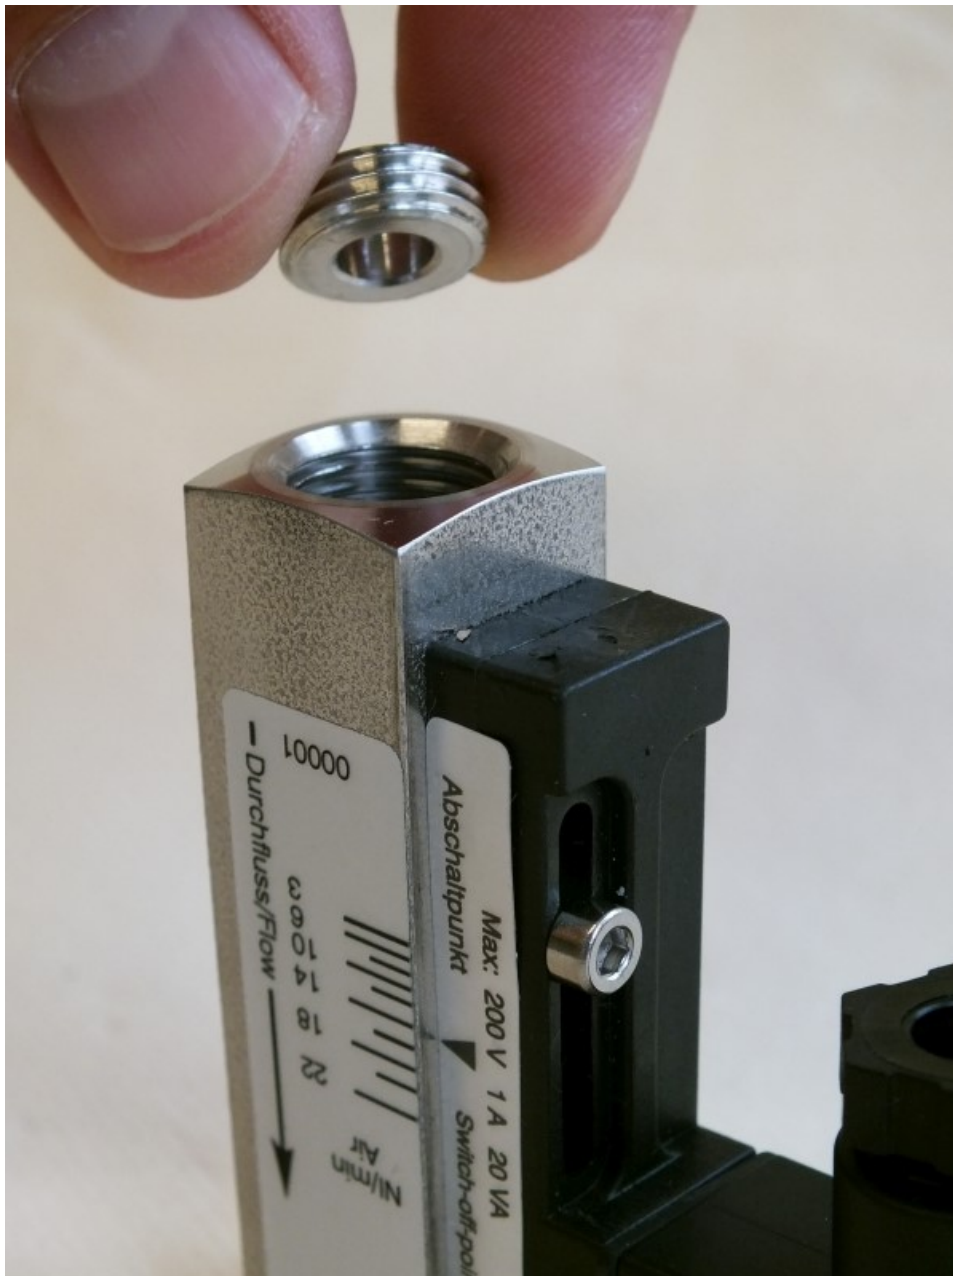

Fig. 41: Remove threaded ring (inlet)
8. ➤ Unscrew and remove the threaded ring (inlet) from the device body (Fig. 41)